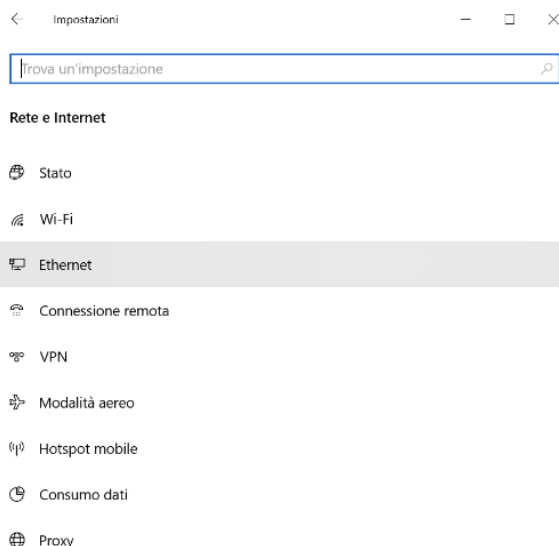
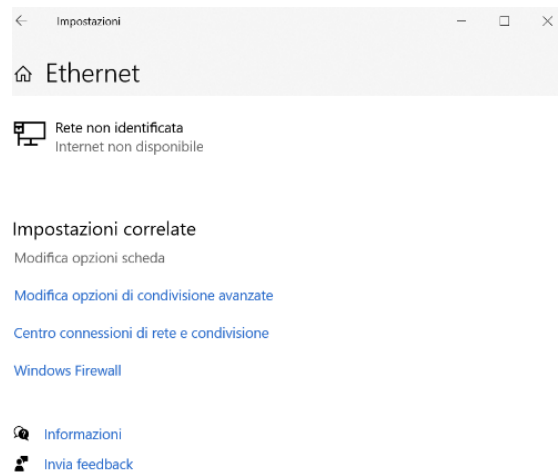

Fig. 10
Fig. 11
4. Choose Ethernet again (Fig.10) and the menu will open as in Fig 11.